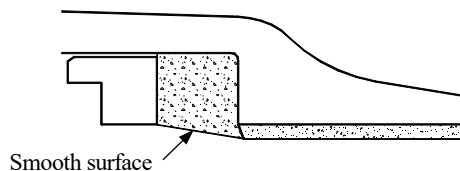

Figure 18 Finished joint mortar
- 4) Finish the surface of the joint mortar to smooth with spatula (see Figure 18).